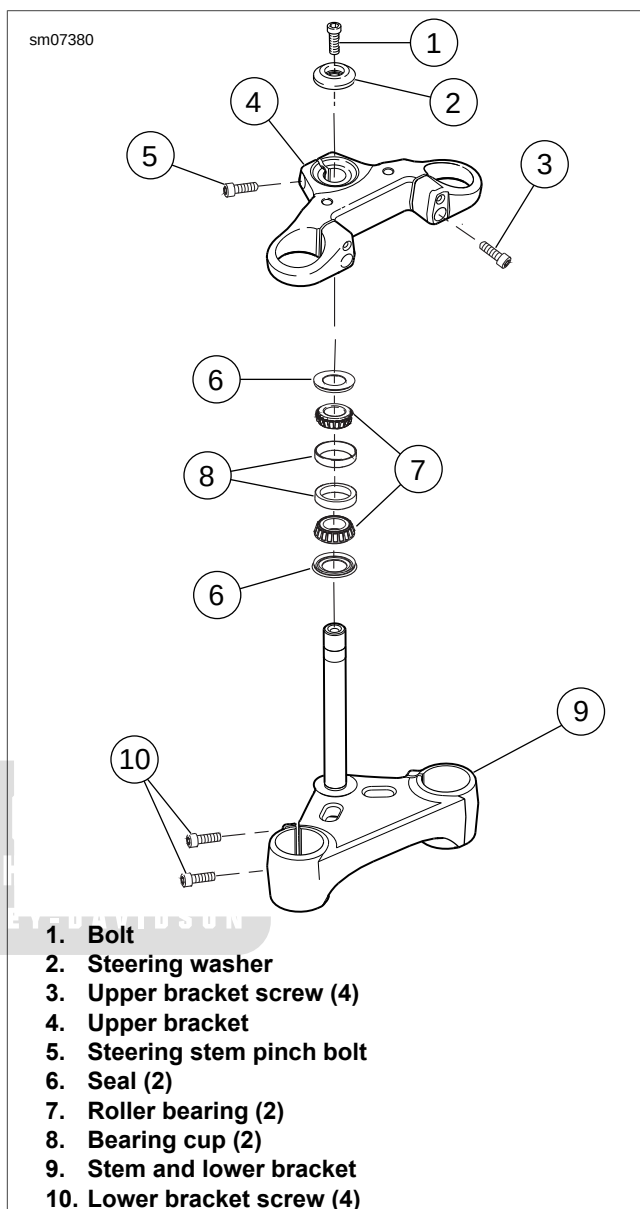

Figure 2-119. Steering Head
7. See Figure 2-119. Loosen all pinch bolts on upper and lower fork brackets. Pull fork tubes from fork brackets.
8. Remove brake hose bracket from the bottom of stem and lower fork bracket (9).
9. Remove bolt (1) and steering washer (2). Pull stem and lower bracket from bottom of steering head while lifting handlebars from steering head with upper fork bracket (4) attached. Be careful not to pinch or kink control cables.
10. Remove seal (6).
11. Remove roller bearing (7) from bearing cup (8).
1. See Figure 2-119. Install fork stem and lower bracket (9) with **new** seal (6) and **new** greased roller bearing (7) into frame steering head.
2. Install **new** greased roller bearing and **new** seal (6) into upper frame neck bearing race.
3. Install upper bracket (4), steering washer (2) and bolt (1). Do not tighten at this time.